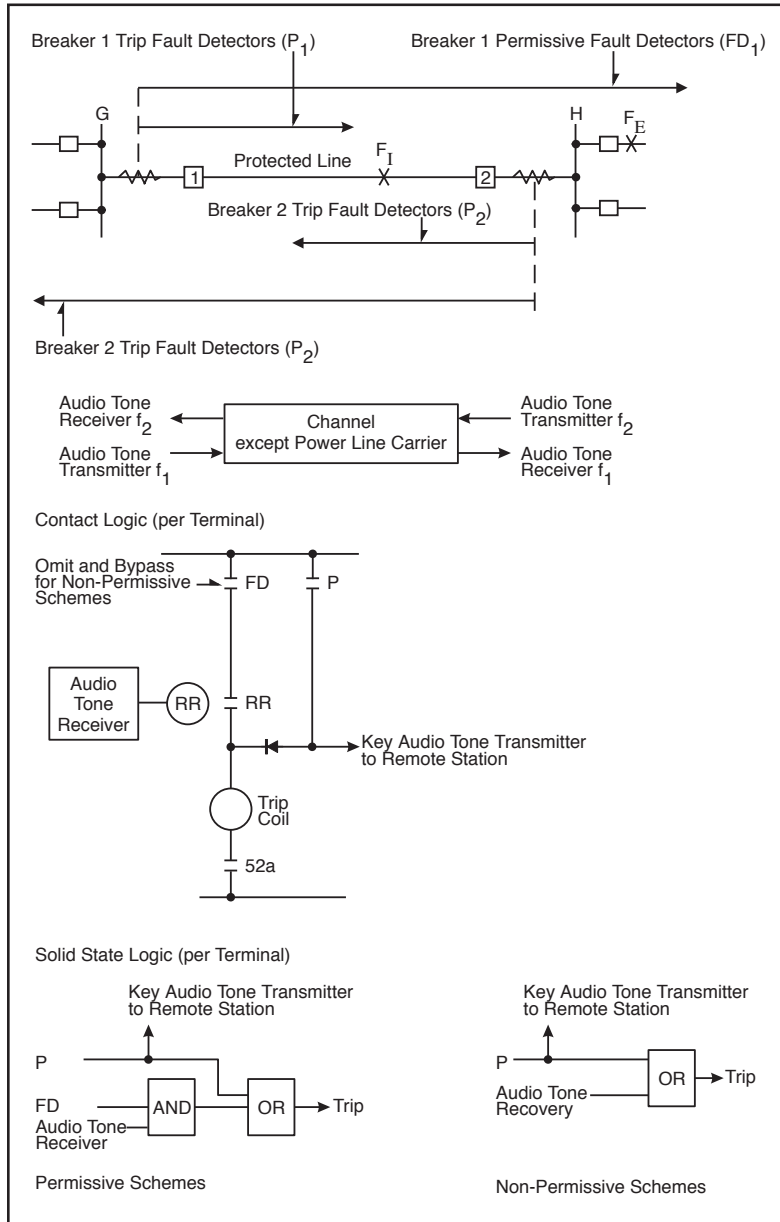

Figure 3-5. Basic Logic Diagrams for Underreaching Transfer Trip Systems.
For overreaching systems, the directional phase and ground trip fault detectors (P) must be set to overlap within the transmission line and not overreach any terminals (see Figure 3-5).
Though it is the least complex, the non-permissive system is rarely used because of the high potential for false outputs from the channel, which would cause incorrect tripping. If a non-permissive system is used, the channel considerations should be as described later for direct trip systems. The system is made permissive by the additional set of phase and ground overreaching fault detectors (FD), which must operate for all internal faults (see Figure 3-5).
Operation of the underreaching transfer trip scheme shown in Figure 3-5 is described in Table 3-2 for external and internal faults.